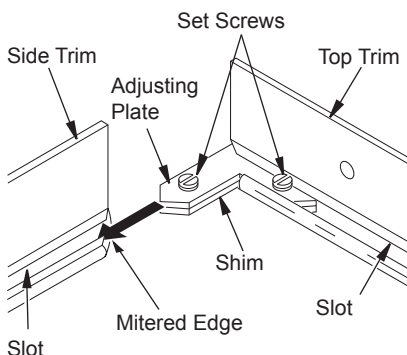

Figure 50 - Assembling Trim
3. Align shim under adjusting plate as shown in Figure 50.
4. Slide one end of adjusting plate/shim in slot on mitered edge of top trim (see Figure 50).
5. Slide other end of adjusting plate/shim in slot on mitered edge of side trim (see Figure 50).